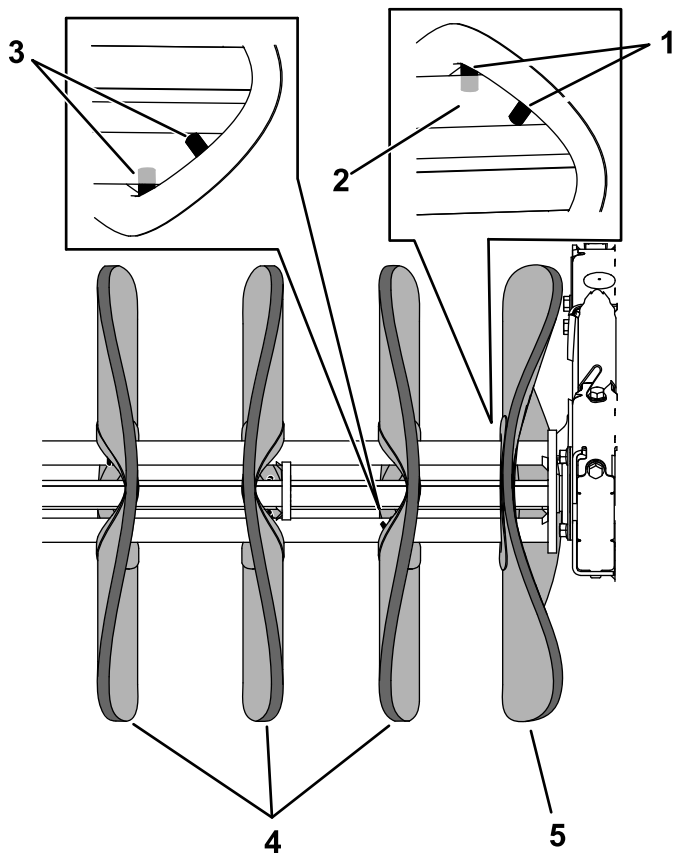

**Figure 25**
Replace the bristles when they are worn to a 33 cm (13 inch) diameter from the original 51 cm (20 inch) diameter. Check the condition of the wear plate when you replace the bristles (see Figure 25); if the wear plate is worn through, replace it.
- If you are replacing the wear plate, remove the bolt and wear plate, and use the bolt to install the new wear plate (Figure 25).